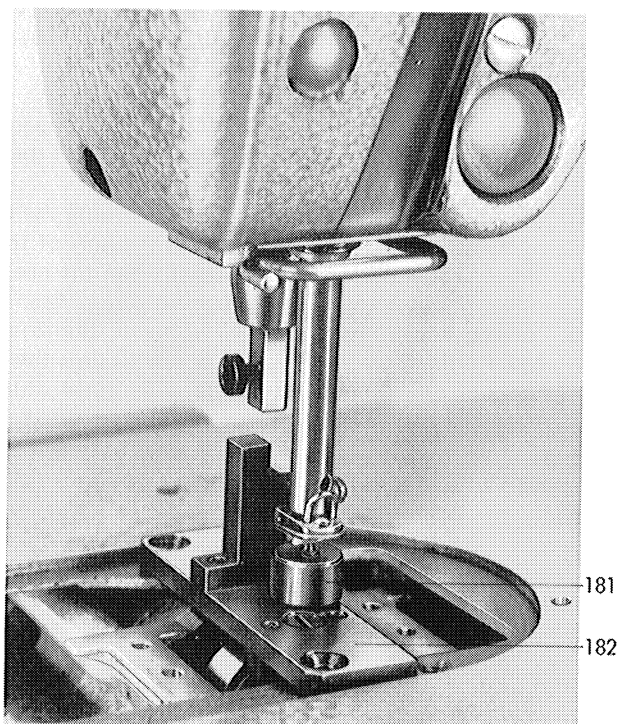

Fig. 31
3. Introduce the respective setting pin 181 (fig. 31) in the drilled hole of the base plate 182, so that it is positioned under the needle bore of